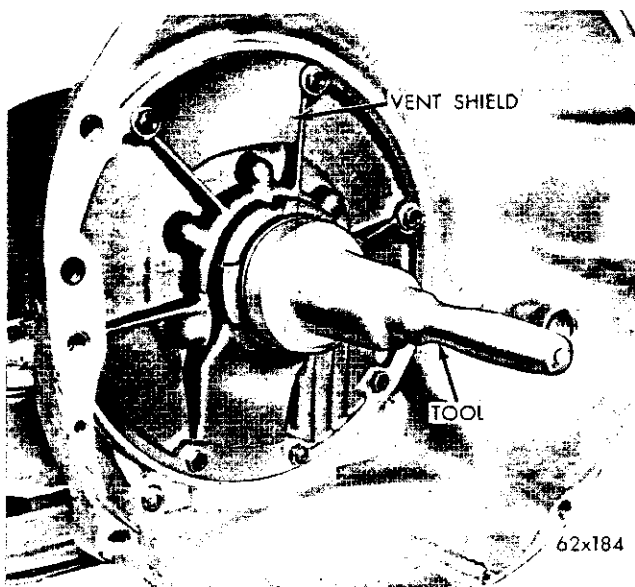

Fig. 49—Installing Front Pump Oil Seal
(2) To install a new seal, place the seal in the opening of the pump housing (lip side facing inward). Using Tool C-3860, drive seal into housing until the tool "bottoms" (Fig. 49).